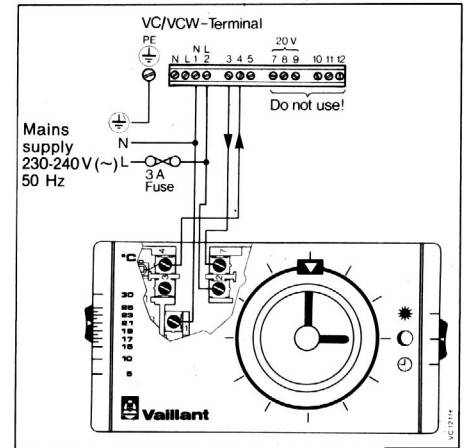

Fig. 31
- B) ON/OFF operation with room temperature control (fig. 31)